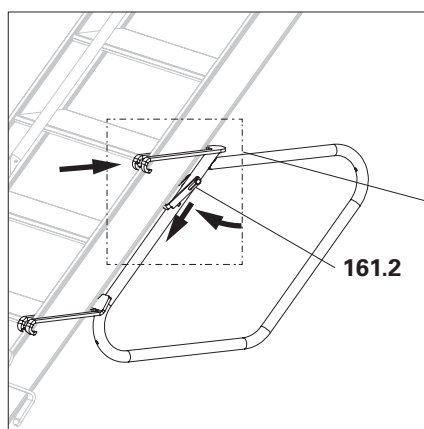

Fig. A8.07c
3. Swing out the locking pin (**161.2**) and pull it down between the stair tower and the stair guardrail. (Fig. A8.07c + A8.07d)